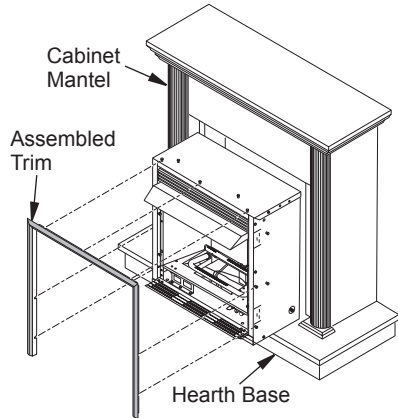

Figure 13 - Installing Fireplace into Mantel Assembly
10. Carefully insert fireplace into cabinet mantel (see Figure 13). Be careful not to scratch or damage hearth base or cabinet mantel.